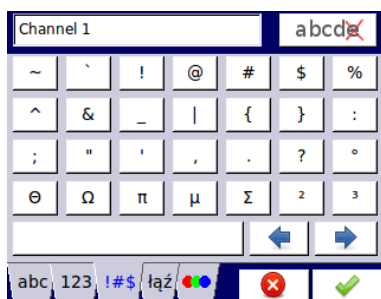

Fig. 7.3. Text editor – special symbols
- the special symbols, see Fig. 7.3,